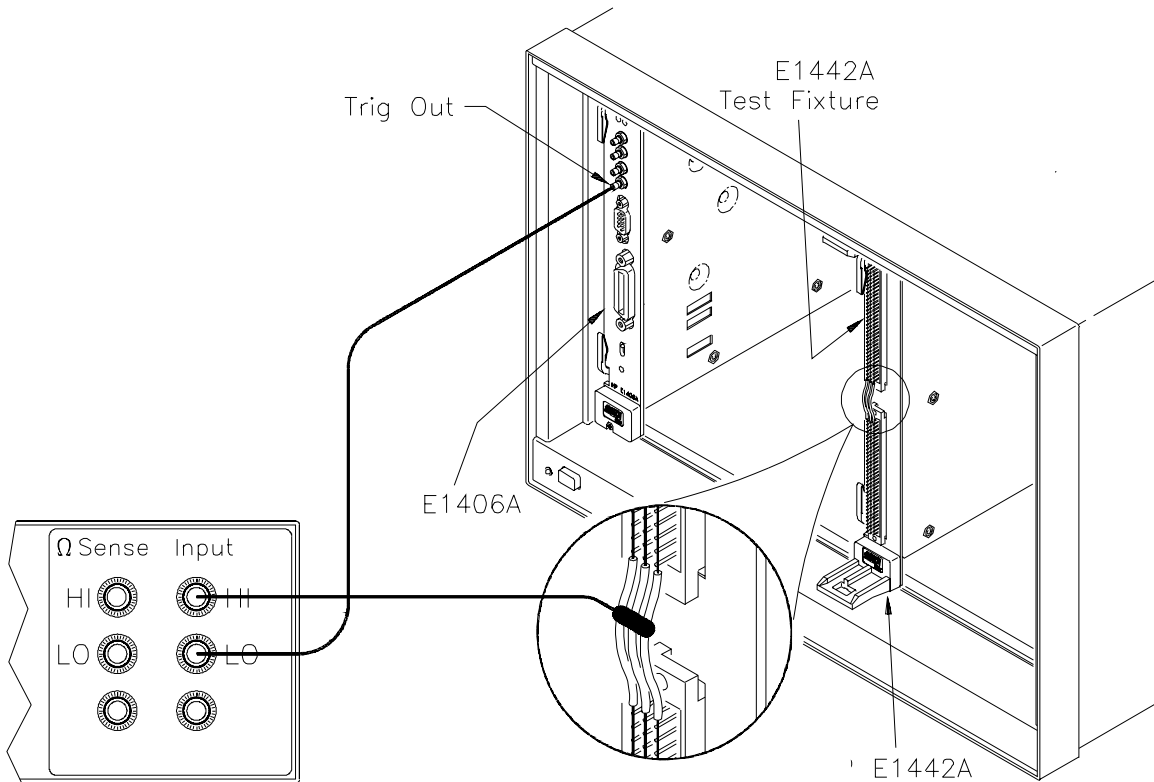

Figure 2-5. COM, HI, LO to Chassis DC Isolation Hardware Setup
1. **Hardware Connections.** See Figure 2-5.